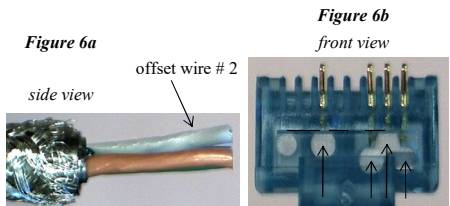
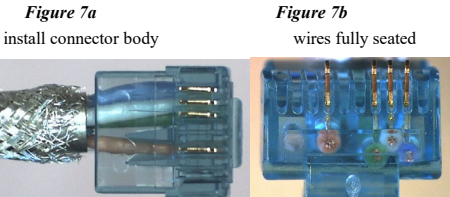
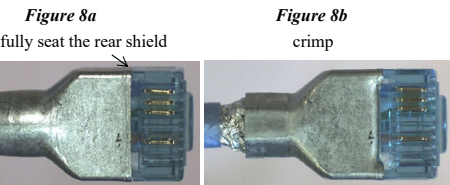

Figure 6a
Figure 7a
Figure 7b
- 6) Prior to installation of the connector body, form wire # 2 upwards, offset from wires 1 and 3 (Fig. 6a). This will conform with the cavity pattern inside the RJ45 (Fig. 6b) which will aid in wire insertion. Install connector body onto wires until all wires are fully seated (Fig. 7a). To complete full insertion, push while gripping braids over the ferrule. Confirm wires are fully seated by viewing stranded wire conductors through the front end of the connector body (Fig. 7b). The inner ferrule may contact the connector body when wires are fully inserted.